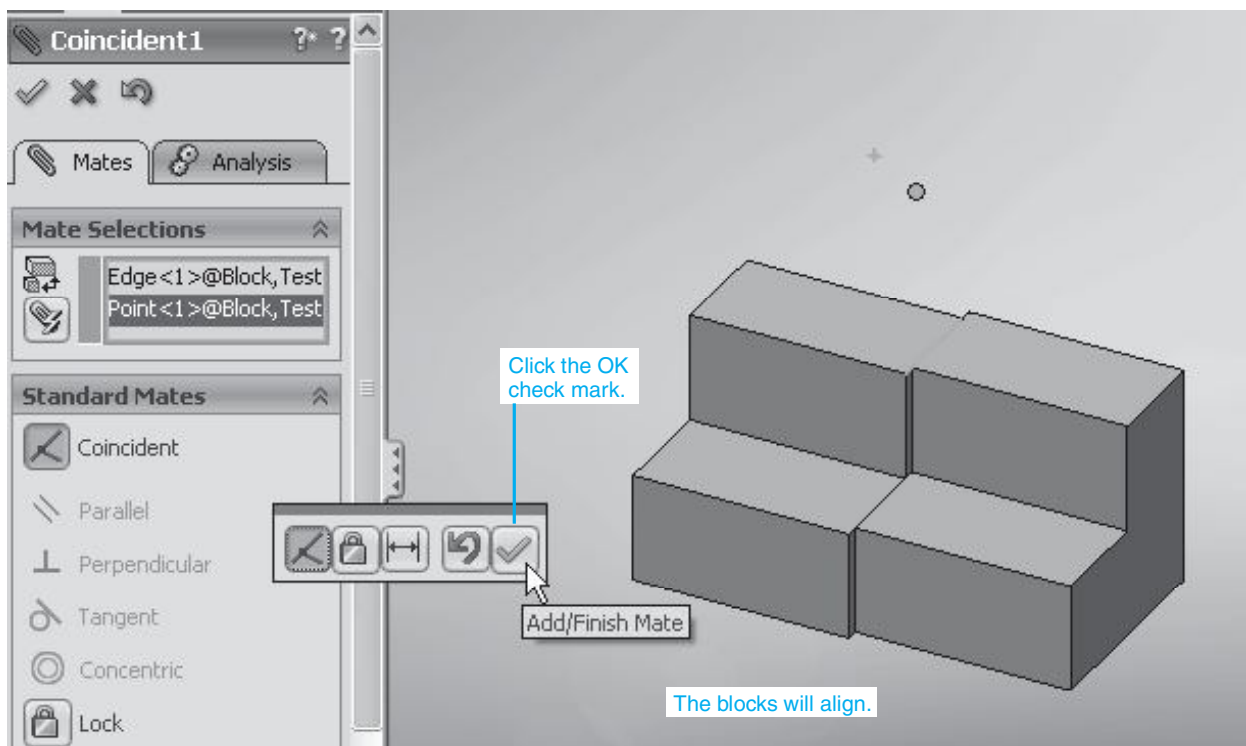

Figure 5-11
- The edges will align. See Figure 5-11.